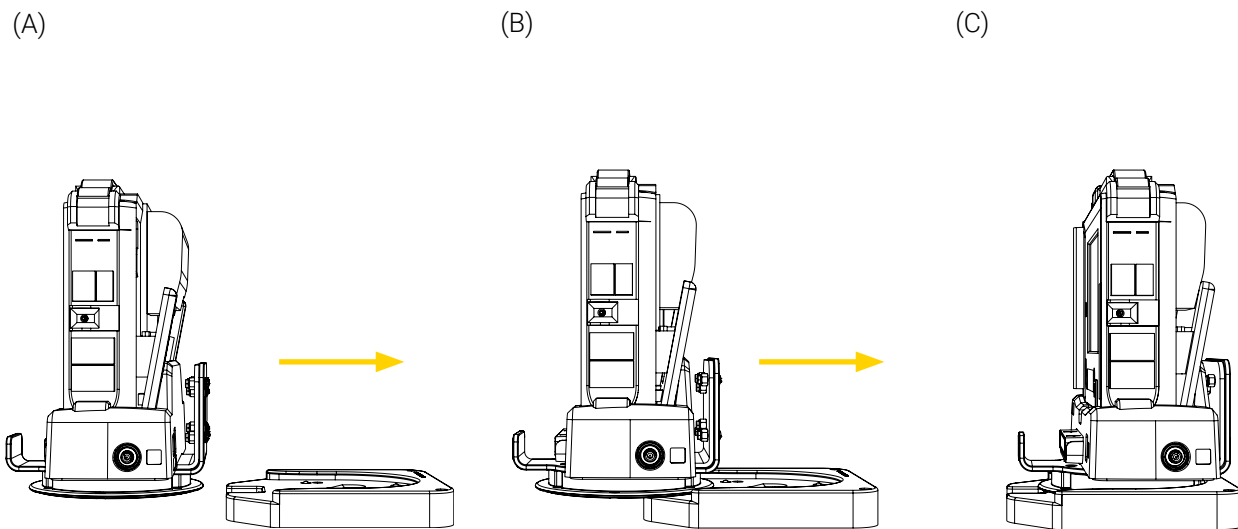

Figure 4: Installing the Bracket Pro Serie® 76 PX in the Standard Surface Base
- Align the standard bottom disc with the Standard Surface Base (Figure 4 A).
- Slide the standard bottom disc horizontally into the Standard Surface Base (Figure 4 B).
- Push the medical device all the way back in the base (Figure 4 C) until you hear the click of the quick release mechanism engaging.